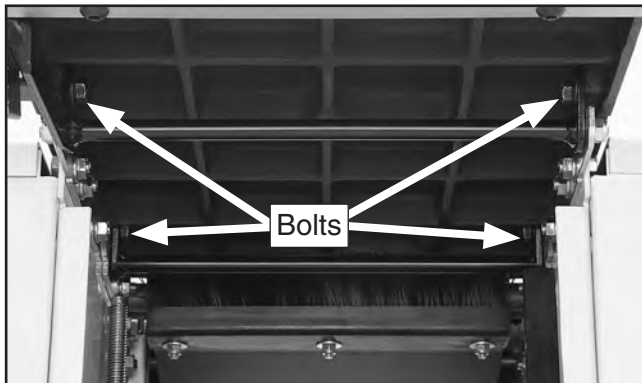

Figure 75. Location of bolts that secure infeed table.
3. Remove the four special bolts and washers that secure the infeed table to the frame, then remove the infeed table (see **Figure 75**).